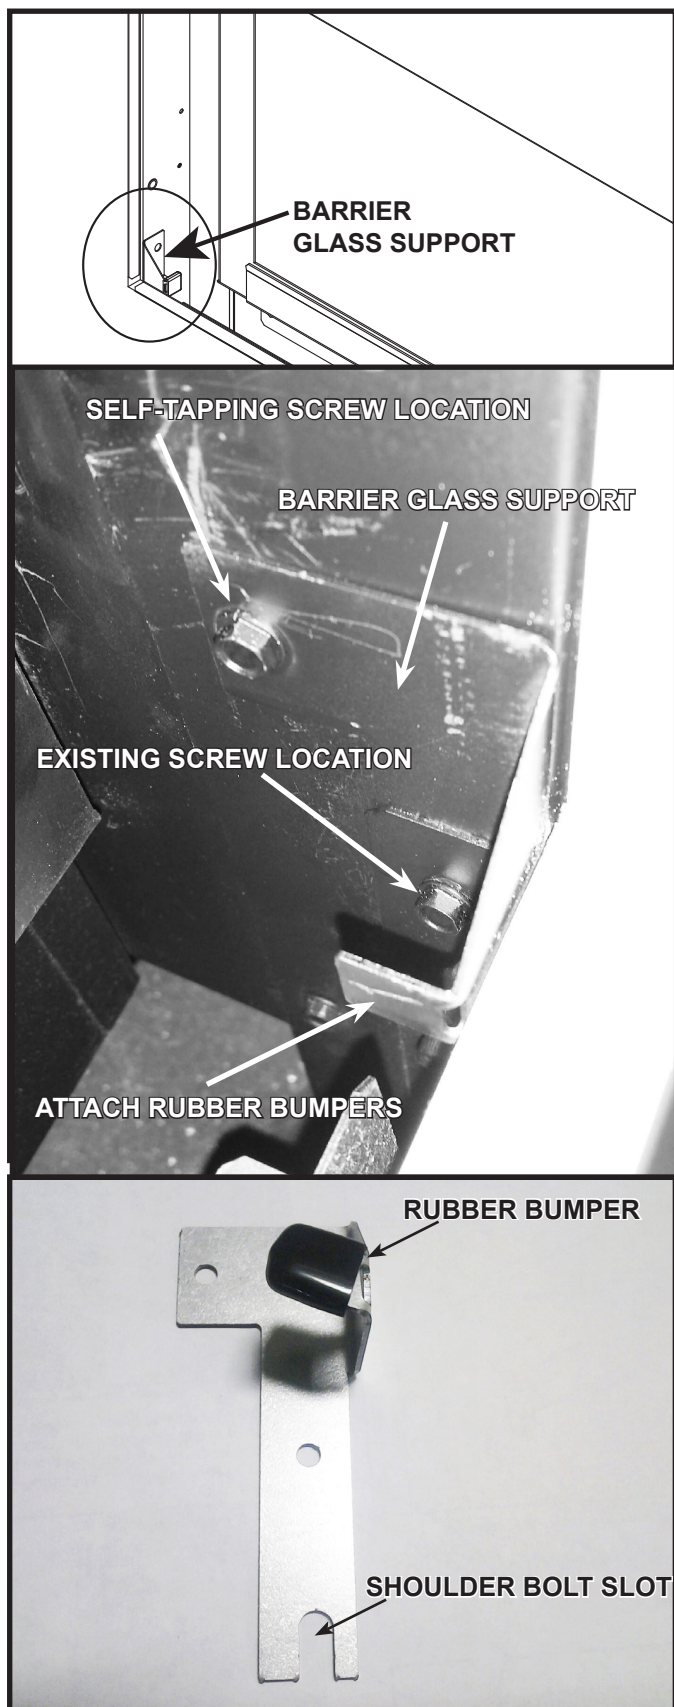

Figure 10.13 Install Barrier Glass Supports
6. Install barrier glass supports on bottom left and right sides using an existing screw, a self-tapping screw, and shoulder bolt. See Figure 10.13 and 10.14. Install rubber bumpers as shown in Figure 10.13 to protect the barrier glass.